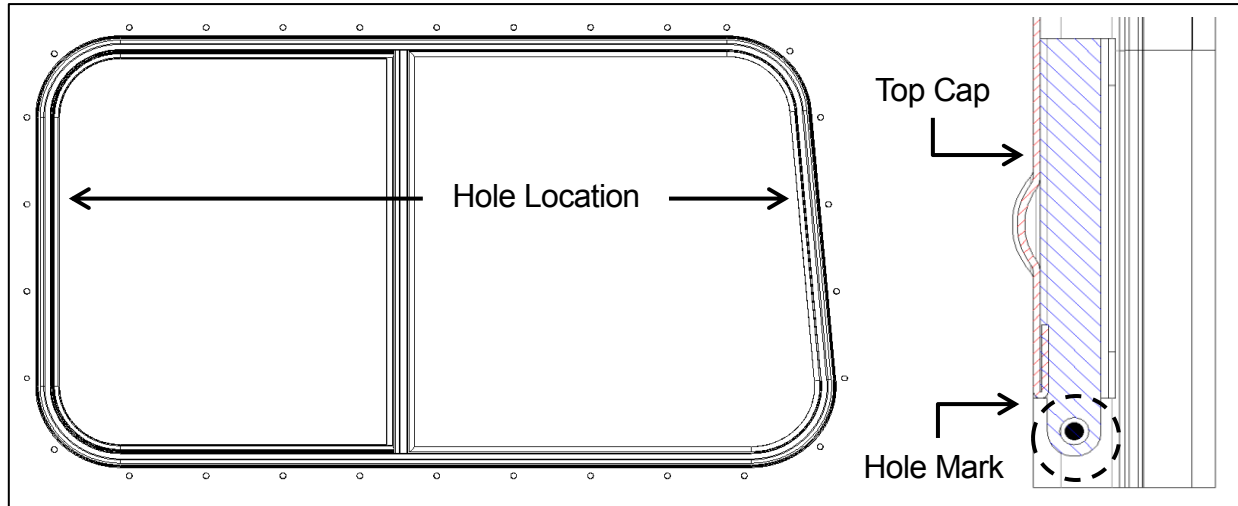

Figure 1
1. Mark hole locations on Aluminum trim of the truck as Figure 1 shows.